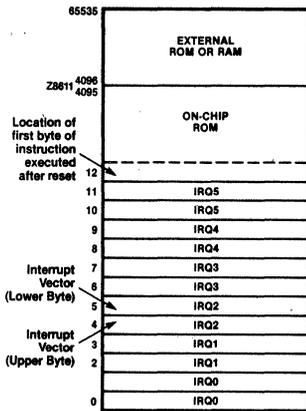

Figure 4. Program Memory Map
**Program Memory.** The 16-bit program counter addresses 64K bytes of program memory space. Program memory can be located in two areas: one internal and the other external (Figure 4). The first 4096 (Z8611) bytes consist of on-chip mask-programmed ROM. At addresses 4096 (Z8611) and greater, the Z8 executes external program memory fetches. The first 12 bytes of program memory are reserved for the interrupt vectors. These locations contain six 16-bit vectors that correspond to the six available interrupts.